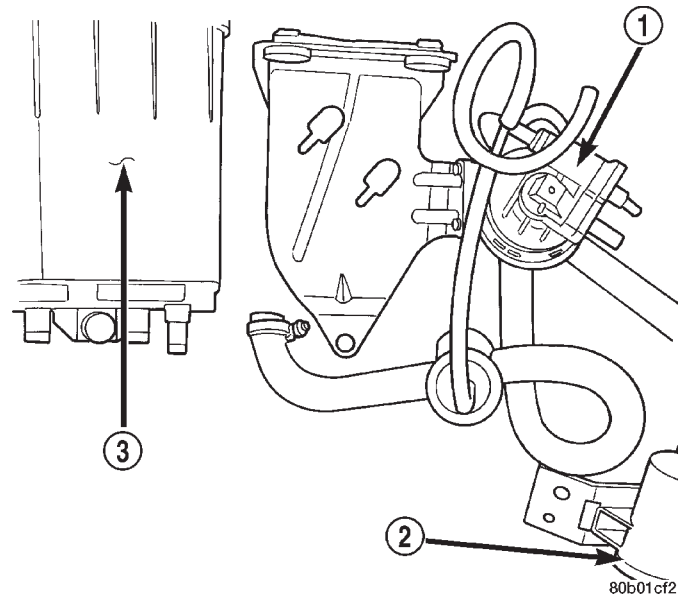

Fig. 24 LDP and EVAP Canister
(12) Remove push pin from bracket for EVAP canister (Fig. 24). Remove canister.